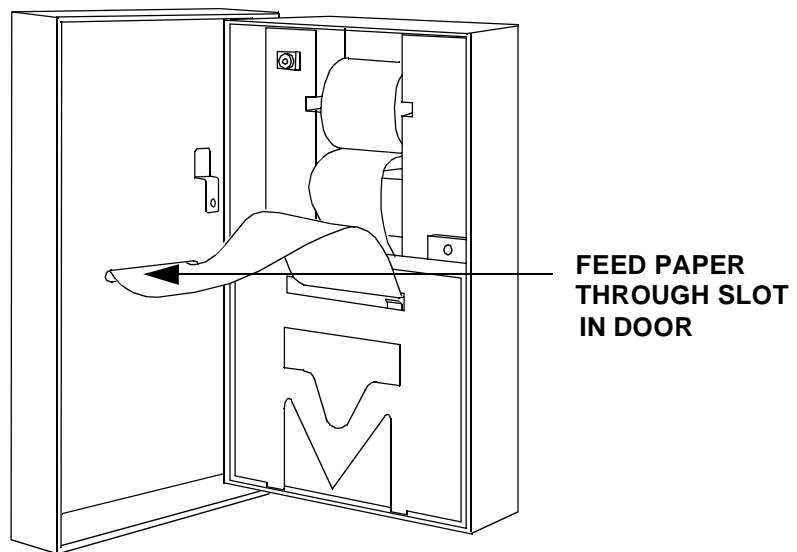

Figure 19. Printer Door Slot
6. Feed the paper through the slot in the door Figure 19).